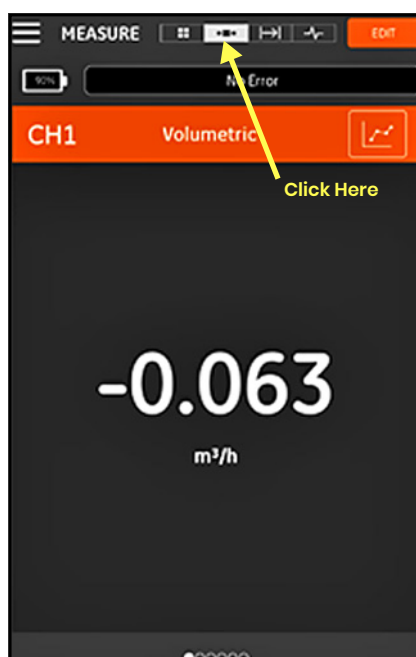

Figure 117: Single Measurement Screen
To change the screen to a one-measurement display (see *Figure 117 below*), click the  icon. In this mode, one measurement is displayed at a time and you can switch between available measurements by swiping across the screen left or right.
- The default one-measurement display is the numeric value of the real-time measurement, as shown in *Figure 117*.